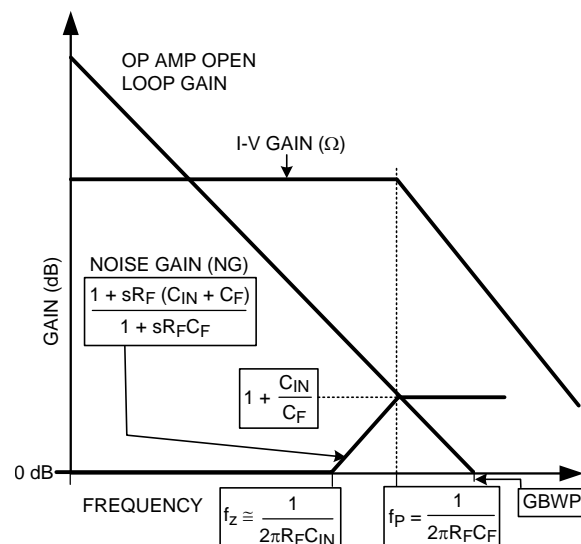

Figure 61. Transimpedance Amplifier Noise Gain and Transfer Function
Figure 61 shows the Noise Gain (NG) and transfer function (I-V Gain). As with most Transimpedance amplifiers, it is required to compensate for the additional phase lag (Noise Gain zero at f_z) created by the total input capacitance (C_D (diode capacitance) + C_{CM} (LMH6629 CM input capacitance) + C_{DIFF} (LMH6629 DIFF input capacitance)) looking into R_F . This is accomplished by placing C_F across R_F to create enough phase lead (Noise Gain pole at f_p) to stabilize the loop.